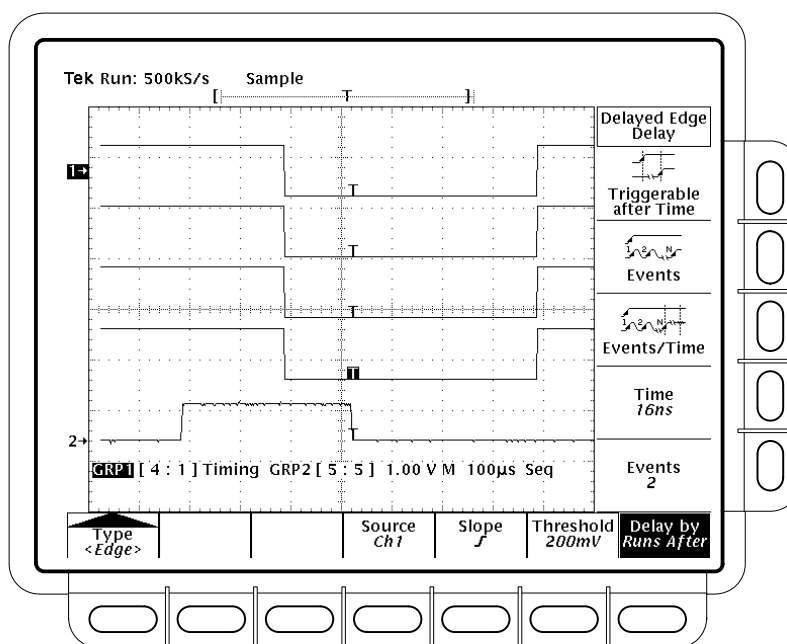

Figure 3-59: Delayed Trigger Menu
3. Press **SHIFT** → **DELAYED TRIG** → **Delay by (main)** → **Triggerable After Time, Events, or Events/Time (side)**. (See Figure 3-59.)